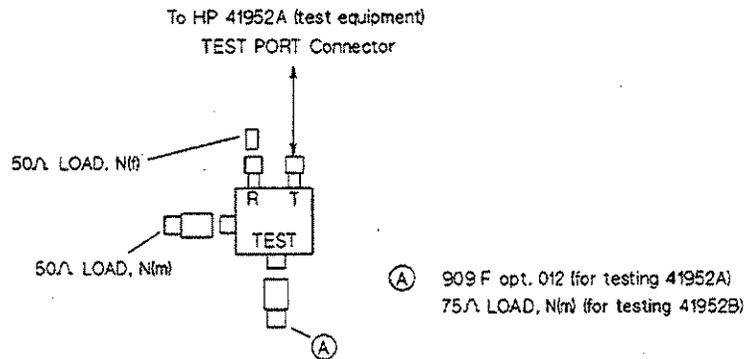

Figure 4-5. REFLECTED connector Port Match Test Setup
- a. Connect the HP 85032B's N(f) LOAD standard to the INCIDENT (R) connector of the HP 41952A/B (under test), as shown in Figure 4-5.
- b. Connect the REFLECTED (T) connector of the HP 41952A/B (under test) to the TEST PORT connector of the HP 41952A (test equipment).